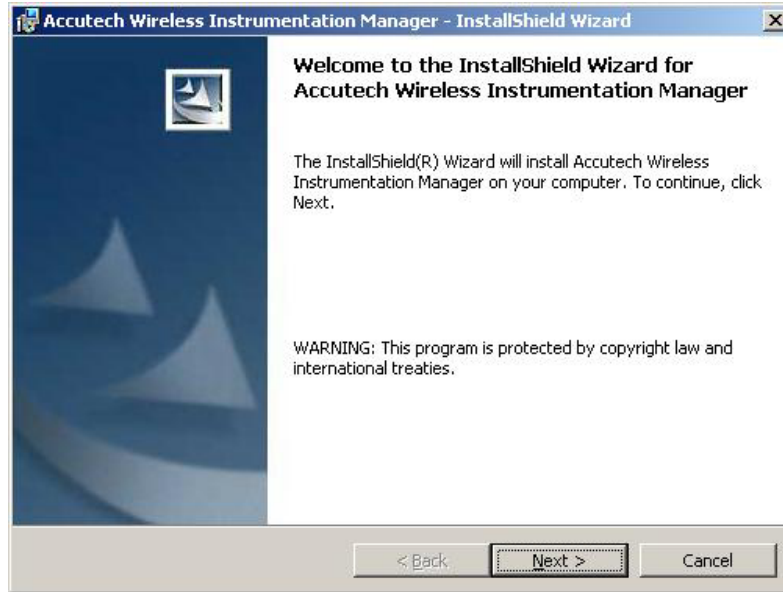

Figure 3-1: InstallShield Wizard
- [2] The InstallShield Wizard should be displayed on the monitor automatically as seen in Figure 3-1.